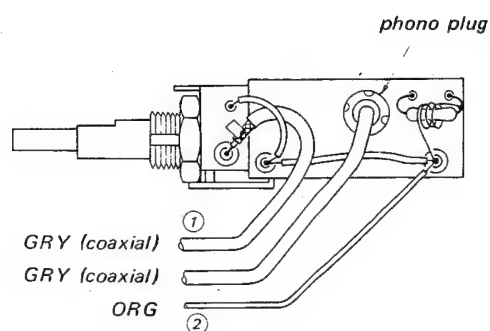

Fig. 14
3. Disconnect a phono plug in Fig. 14.
4. Unsolder a coaxial cable, and a orange lead (① , ② in Fig. 14).